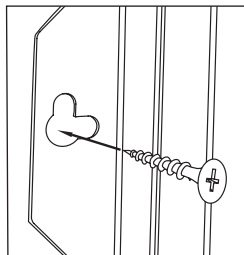

Figure 3: Wall-mount (affixed to the back of the equipment cabinet or a nearby wall)
2. *Wall-mount – affixed to the back of the equipment cabinet or a nearby wall* **Figure 3.**